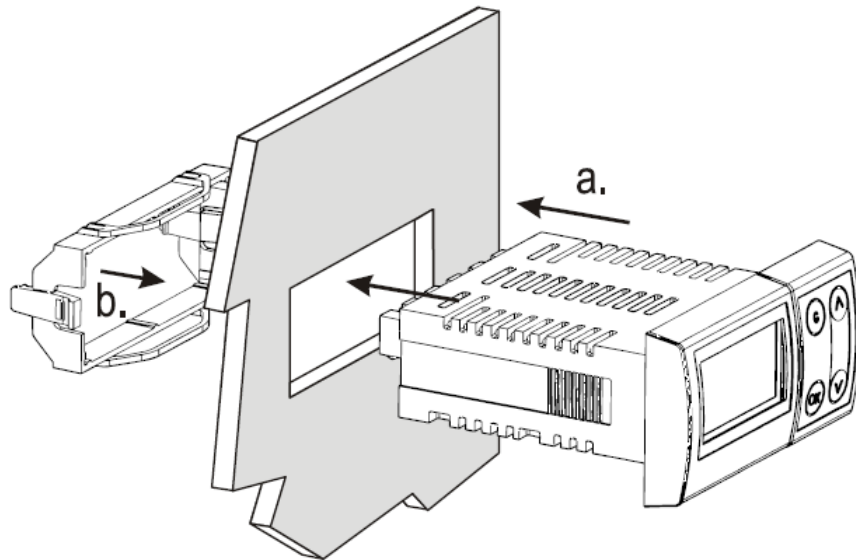

Figure 8: Panel Mounting
4. Insert the FX06 controller through the panel cut-out from the front side of the panel and secure it in place by replacing the fixing bracket from the back (Figure 8).